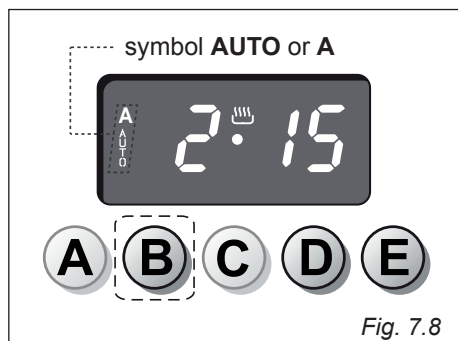

Fig. 7.8
1. Set the cooking time by pressing button "B" and then "E" to move forward or "D" to move back if you have gone beyond the required time (fig. 7.8).